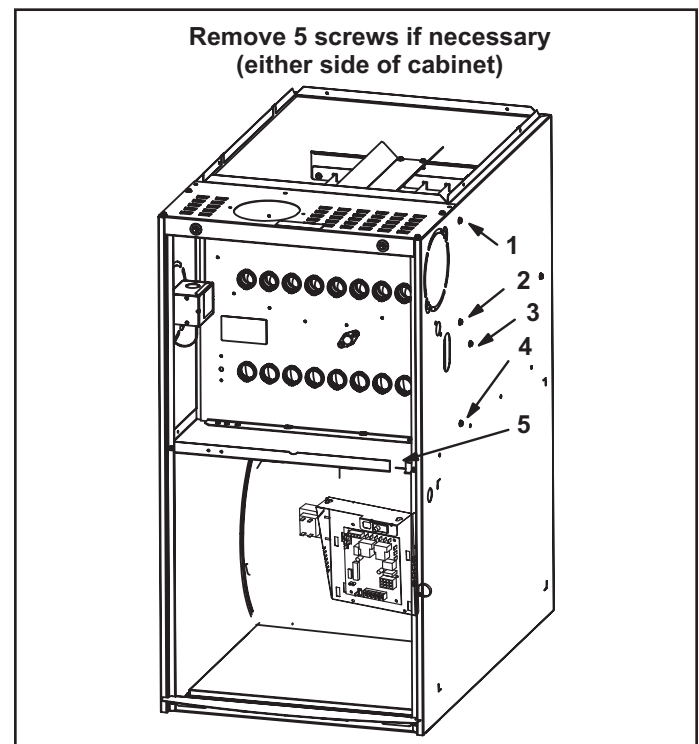

Figure 20.
8. Remove heat exchanger. It may be necessary to spread cabinet side to allow more room. If so, remove five screws from the left side or right side of cabinet. See Figure 20.